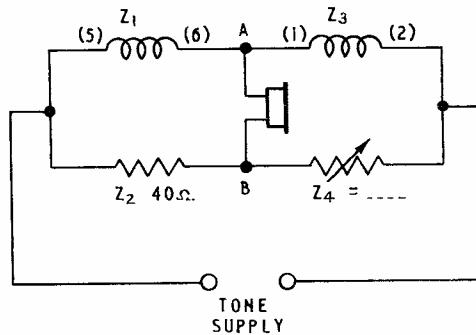

FIG. 2.
STEP 3. Connect the circuit as shown in Fig. 2.
STEP 4. Adjust the decade box until minimum tone is heard. Record the resistance value in Fig. 2.
...WITH..THE..BRIDGE..BALANCED..(FIG.2)..THE..VALUE..OF.R4..WOULD..BE...